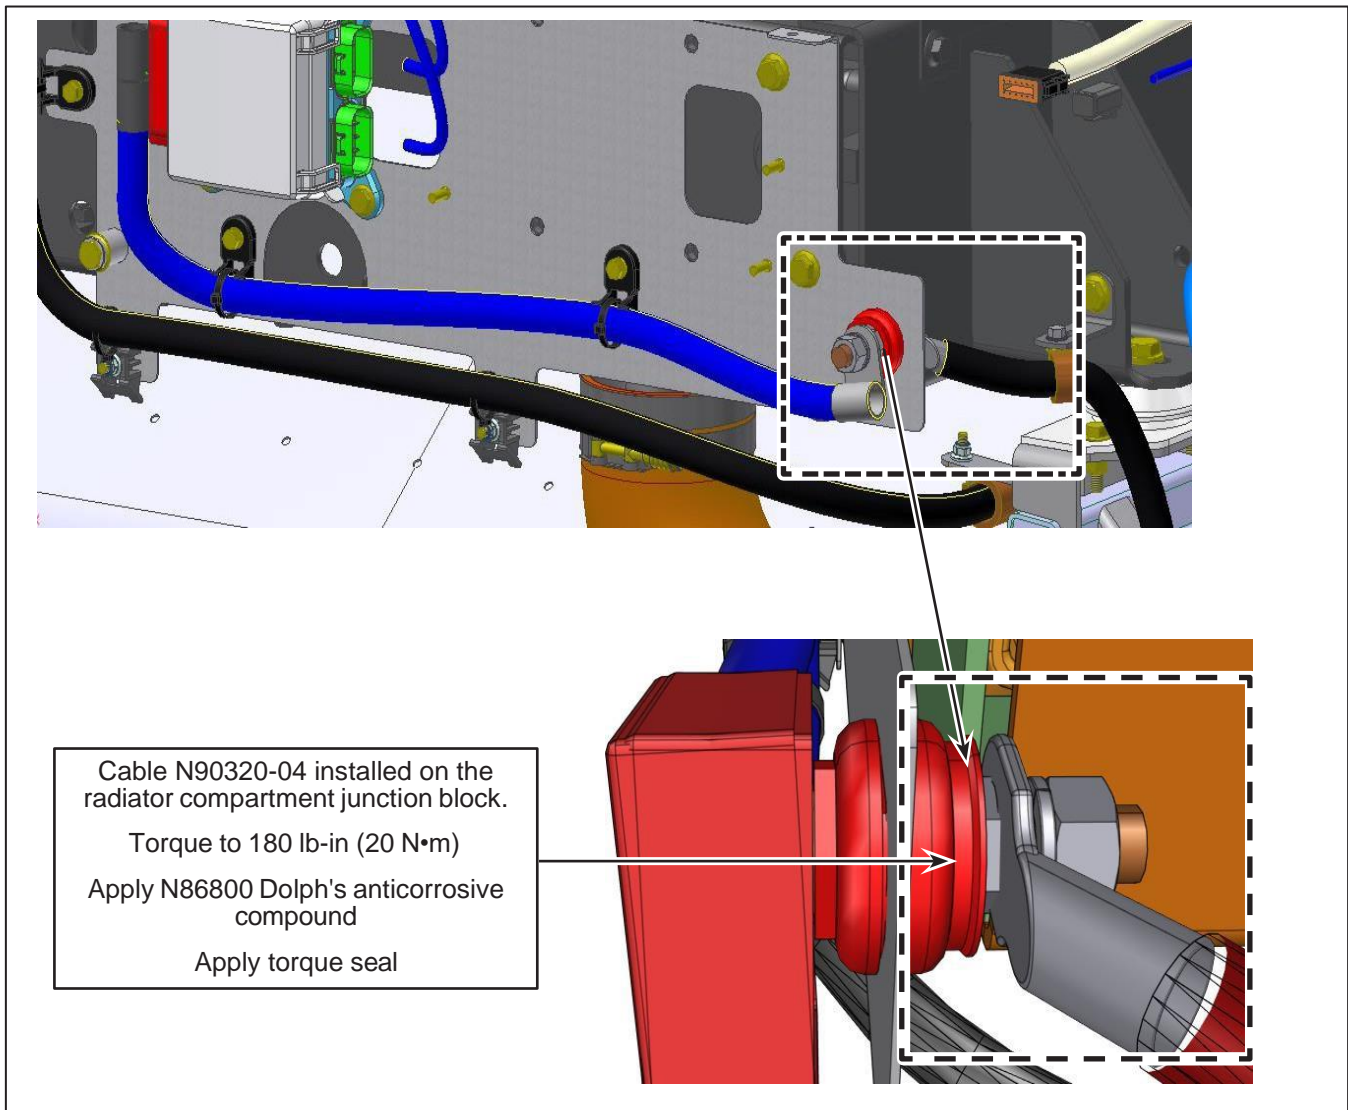

Figure 15 - Cable N90320-04 Connection to the Radiator Compartment Junction Block
- 2.6. In the radiator compartment disconnect the cable located behind the junction block. See Figure 15.
- 2.9. Connect the new cable N90320-04 to the junction block in the radiator compartment. See Figure 15 for torque value.